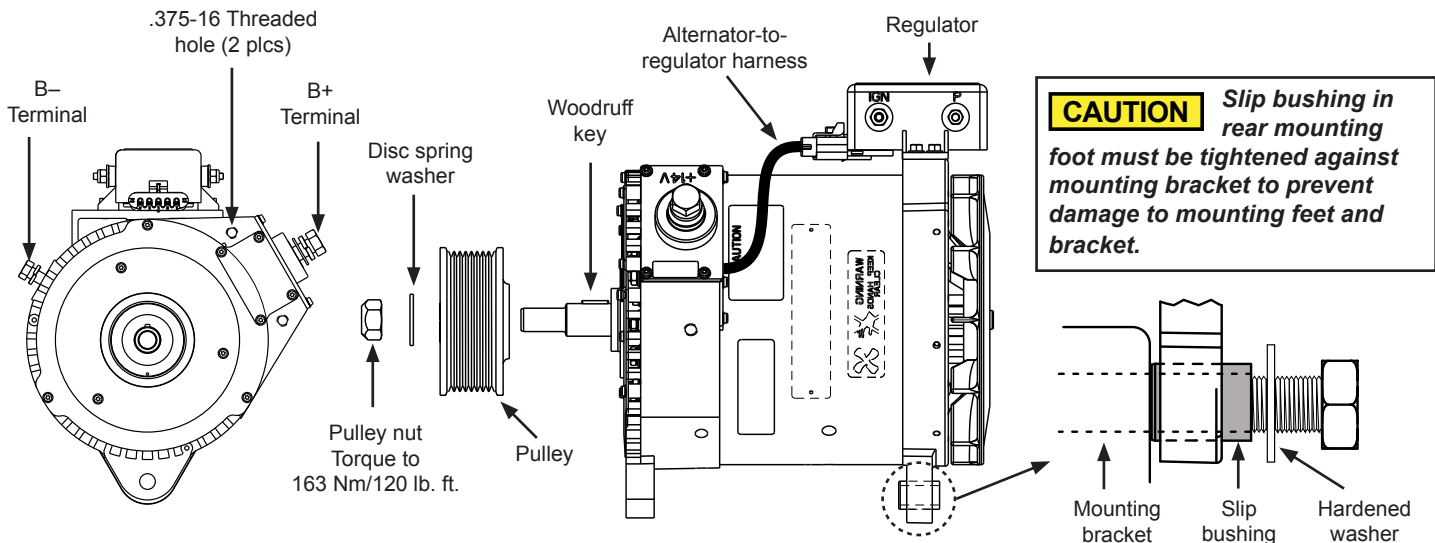

Figure 1: C634 Alternator Connections
2. Install pulley and furnished flat washer and locknut. Torque pulley nut to 163 Nm/120 lb. ft. See Figure 1.
7. Connect alternator-to-regulator harness to regulator as shown in Figure 1.